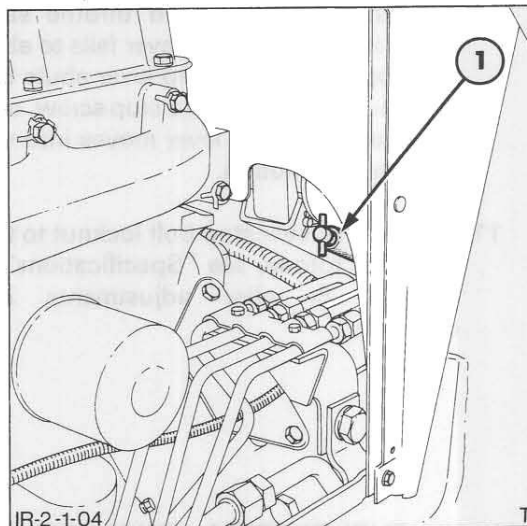

Figure 18
- Tighten the fuel shut-off valve to the specified torque, see "Specifications" – Chapter 8, and then continue to tighten until the valve outlet is in the correct radial position, Figure 18.